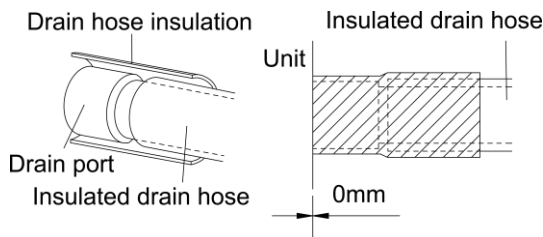

Figure 3-1-13
- (9) Be sure to insulate where the drain port and the drain hose is connected. (Figure 3-1-13)